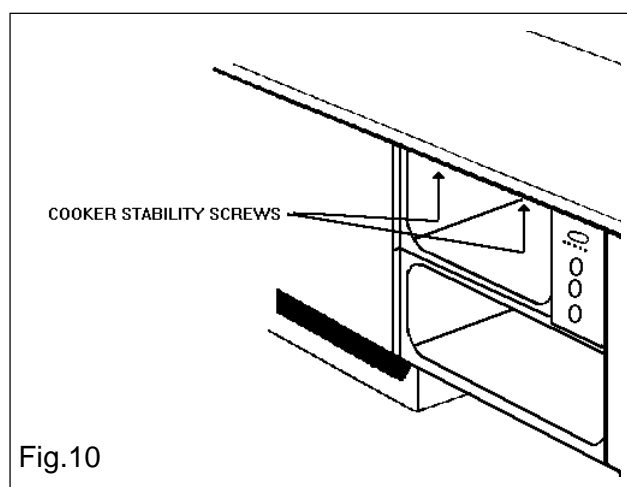

Fig.10
- Centralise and fix the appliance to the underside of the worktop using the two stability screws provided, in the position indicated in Fig.10.